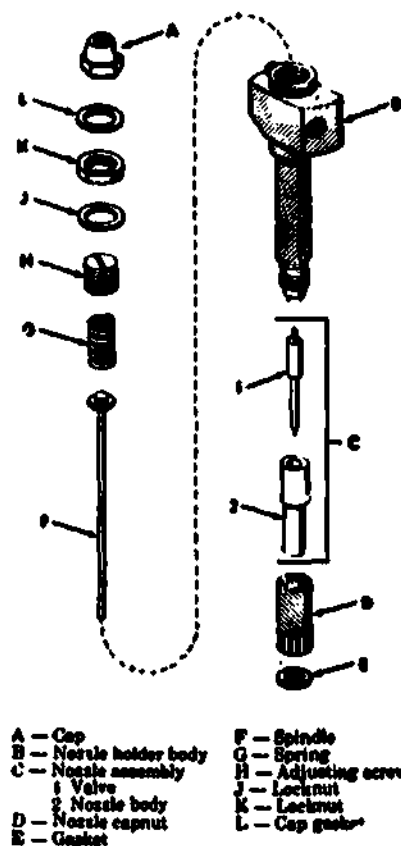

Fig 4-35. Fuel injector nozzle and holder assembly
Soak the valve (C-1, fig 4-35) and nozzle body (C-2) in carbon removing solvent to remove major carbon deposits.
Clean the valve (C-1 fig 4-35) with a soft cloth or a felt pad and mutton tallow. The valve can be held by the stem in a revolving chuck during this operation. A piece of soft wood, well soaked in oil, may be used for cleaning carbon from the valve.
Clean carbon from the spray nozzle hole in the nozzle body (C-2 fig 4-35) by probing with a 0.025-inch diameter cleaning wire. Use extreme care while cleaning to prevent breakage of the cleaning wire in the hole; it is often impossible to remove broken pieces.
Clean the inside of the nozzle body (C-2 fig 4-35) with a formed piece of soft wood, well soaked in oil. The point of the wooden probe should correspond to the angle of the valve seat. Clean the outer surface of the body with a soft cloth soaked in carbon solvent. Do not scrape carbon from the surface around the orifice.
Clean cap (A, fig 4-35), nozzle holder (B), capnut (D), spindle (F), spring (G), adjusting screw (H), locknut gasket (J), locknut (K), and shims (I) with drycleaning solvent P-D-680. Remove sludge and gum deposits from the fuel passage in the body by using a suitable probe.